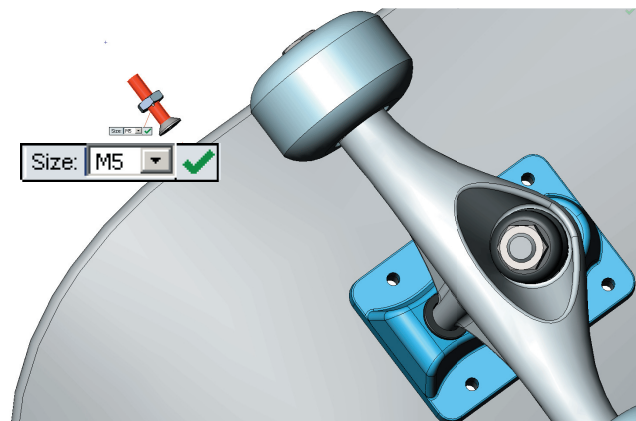

Fig. 6
Step 3. In the lower pane, click **Hex Jam Nut B18.2.3.5M**, **Fig. 5** and drag to shank of screw. While dragging, position tip your cursor on shank of screw, **Fig. 6**. When nut snaps into place on the screw and pointer (cursor) changes to Concentric mate , release the nut.